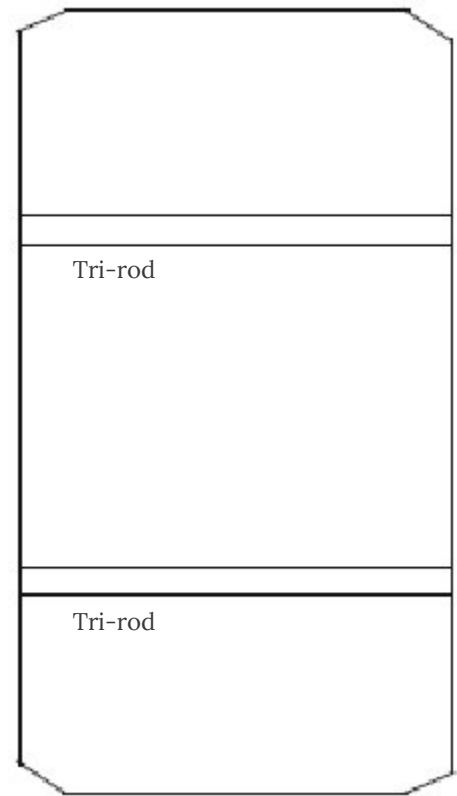

Fig. 1
- 3) Cut two pieces of ethafoam or tri-rod to fit the tray according to Fig. 1.